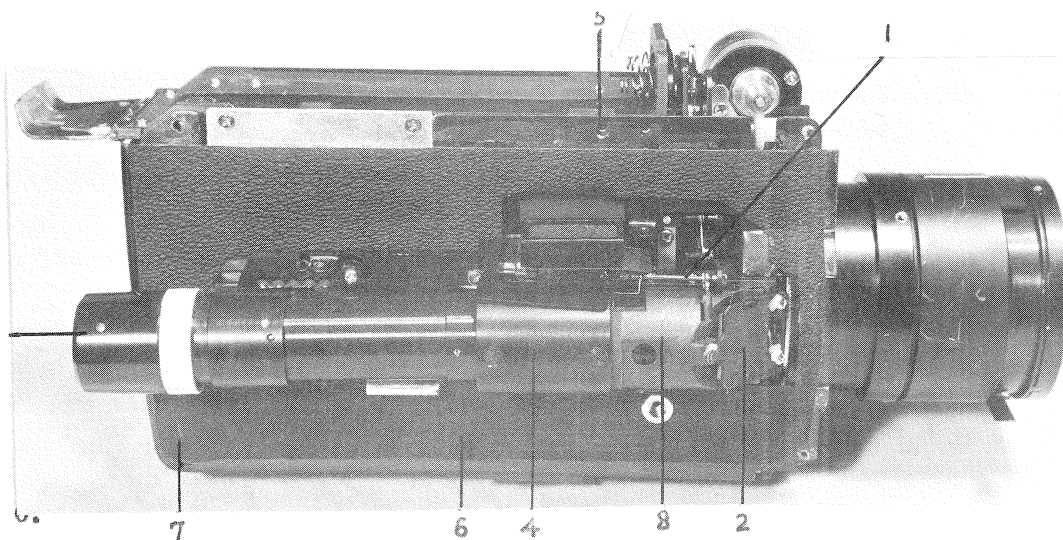

Fig. 6
- b-1. Inspect and adjust joint operation of the finder exposure indicator needle (1 in Fig. 6) and aperture blade. Remove and reinstall these parts.
- b-2. The operation of the contact part of the sensitivity selector can be checked if the common joint cover (4 in Fig. 6) for the eyepiece (3 in Fig. 6) and mask lens (8 in Fig. 6) is removed.
- b-6. Parallax adjustment. Parallax is adjusted by the mounting screw (2 in Fig. 6). This screw, however, is mainly for adjustment in the horizontal direction even though adjustment to some extent is possible in the vertical direction. Other adjusting location (for vertical adjustment) produces better results. (See b-5 in 5.)
- a-1. Remove the mounting screw (5 in Fig. 6) on the upper portion of the side plate.
- a-2. The side plate mounting screws are located at positions 6 and 7 in Fig. 6. Peel back the leather to remove these screws.